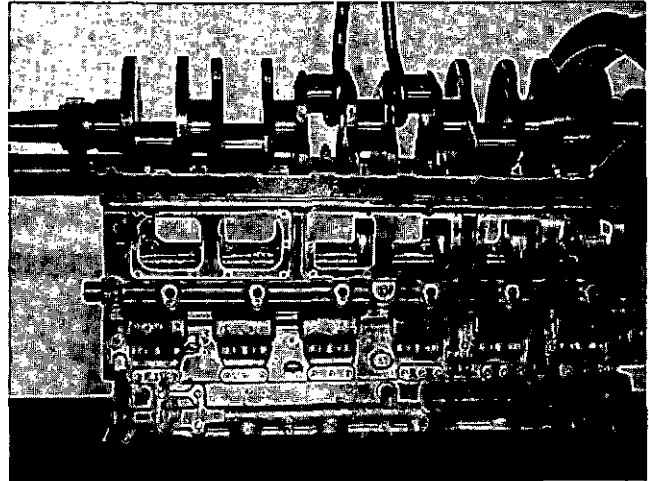

Fig. 0-44, V40077. Lifting crankshaft
7. Using a chain hoist with rubber-covered hooks to protect bearing surfaces, lift crankshaft from cylinder block. Fig. 0-44.